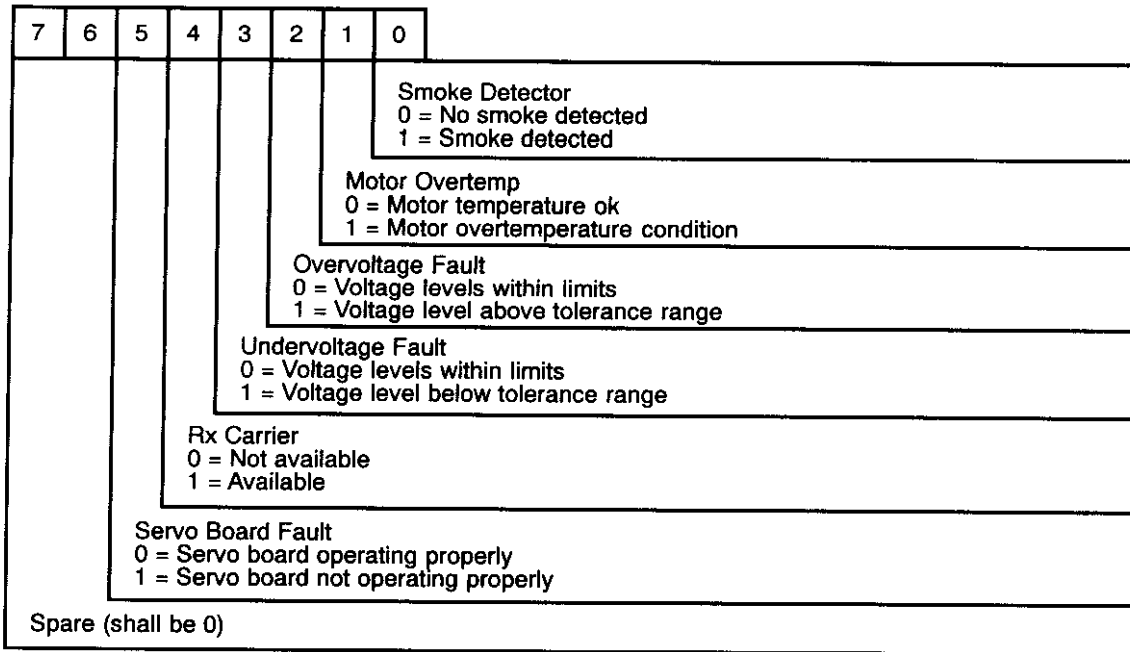

Figure 16. Elevation & Azimuth Fault Word (Word 7 or 14)
- Word 7: Faults see Figure 16
Word 14: Faults see Figure 16